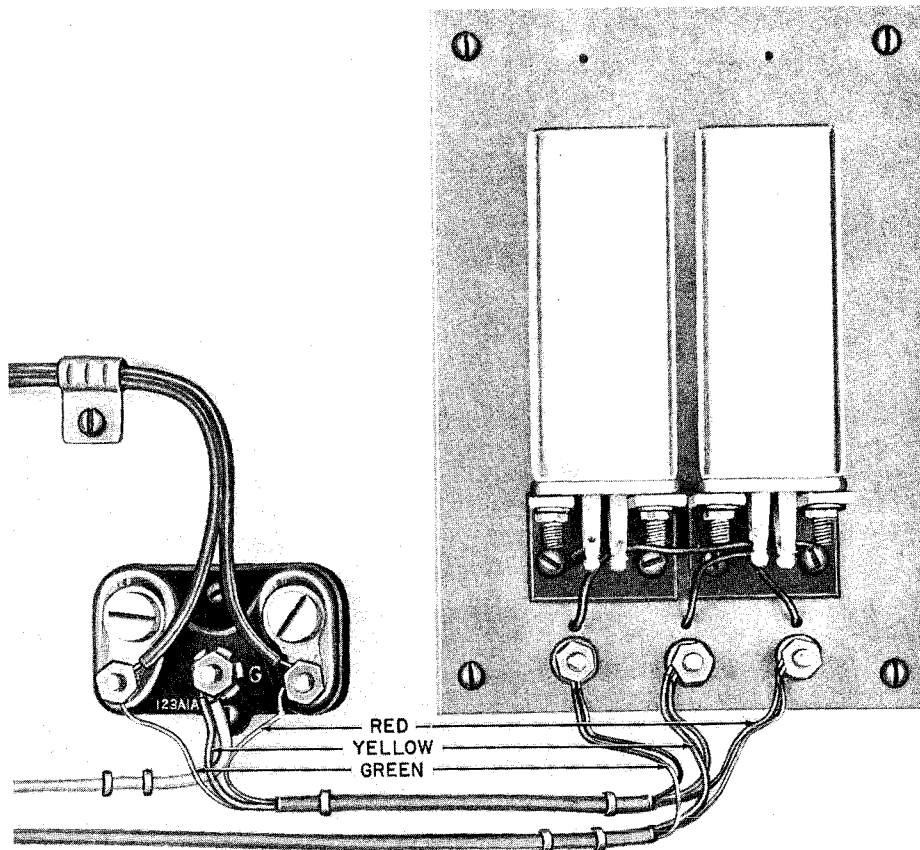

Fig. 6—1231A Protector with 40BA Capacitor Installed
4.04 *40BA Capacitor* (Fig. 6)